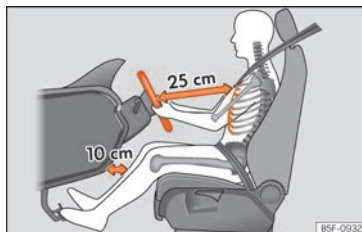

Fig. 4 The correct distance between the driver and the steering wheel must be at least 25 cm (10 inches).
- Move the steering wheel so it is at least 25 cm (10 inches) away from the sternum »» Fig. 4 and you can hold it with both hands on both sides, on the outer part, with your arms slightly bent.
- Move the seat in such a way that you can step on the pedals with your knees slightly bent and with a distance between the knees and the dashboard of at least 10 cm (4 inches) »» Fig. 4.